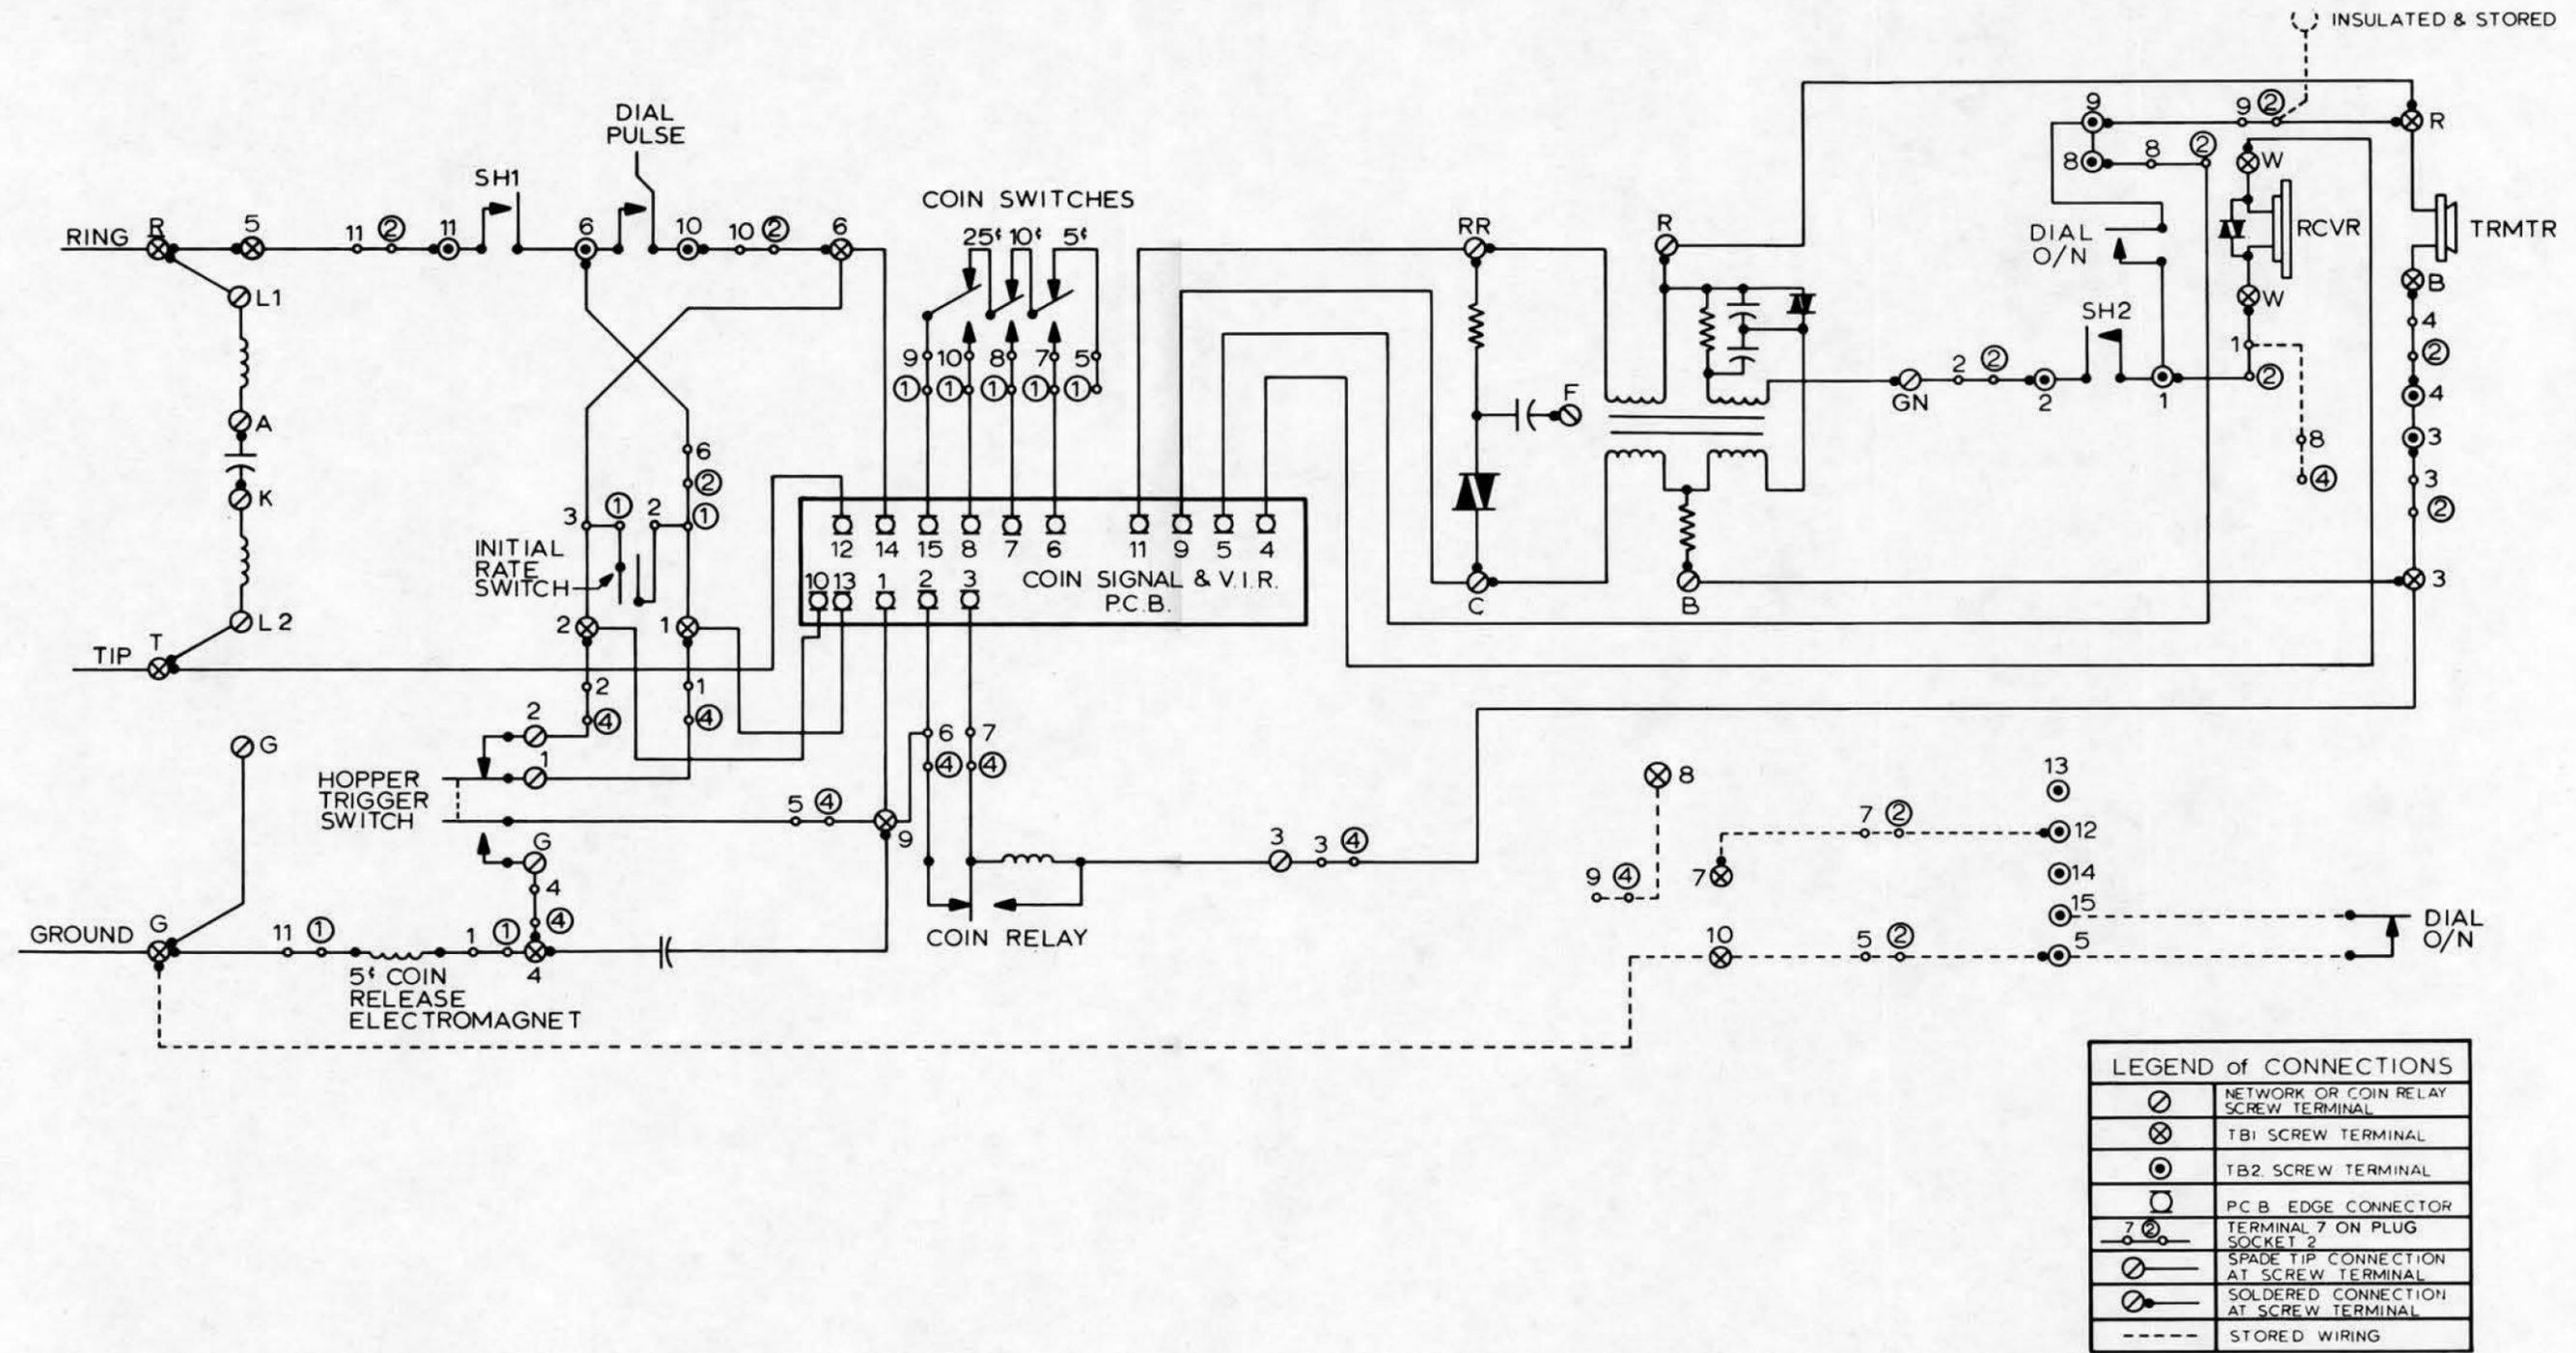

Fig. 3 - Schematic Diagram of QSD400A1 Coin Telephone Set
2.06 The schematic diagrams for the QSD400A1 and QSD2400A1 coin telephone sets are shown in Fig. 3 and 4.